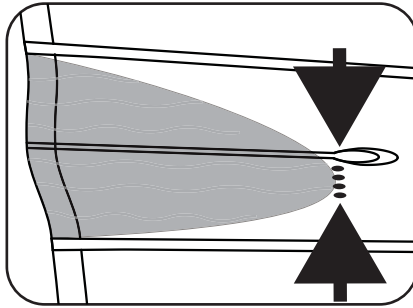

Figure 2: With no outhaul and the leech on the ground, downhaul until the looseness extends to the four black dots.
3) Adjust your downhaul until the looseness extends to the four black dots printed between battens #2 and #3. (fig. 2).